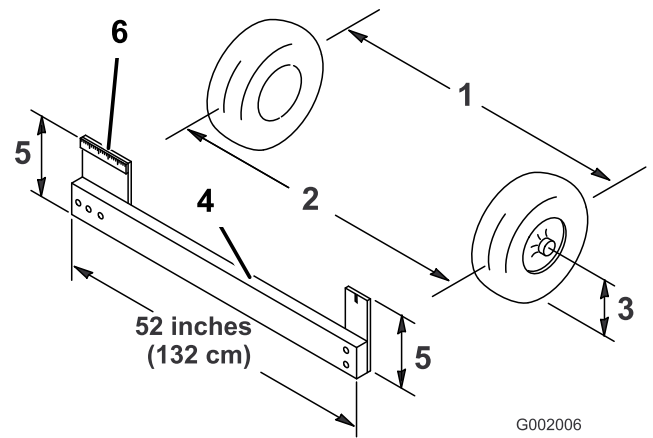

Figure 57
4. Measure the distance between both of the front tires at the axle height at both the front and rear of the front tires (Figure 57). A fixture or alignment gauge is needed for the rear measurement of the front tires at axle height. Use the same fixture or alignment gauge to accurately measure the front of the front tires at axle height (Figure 57).